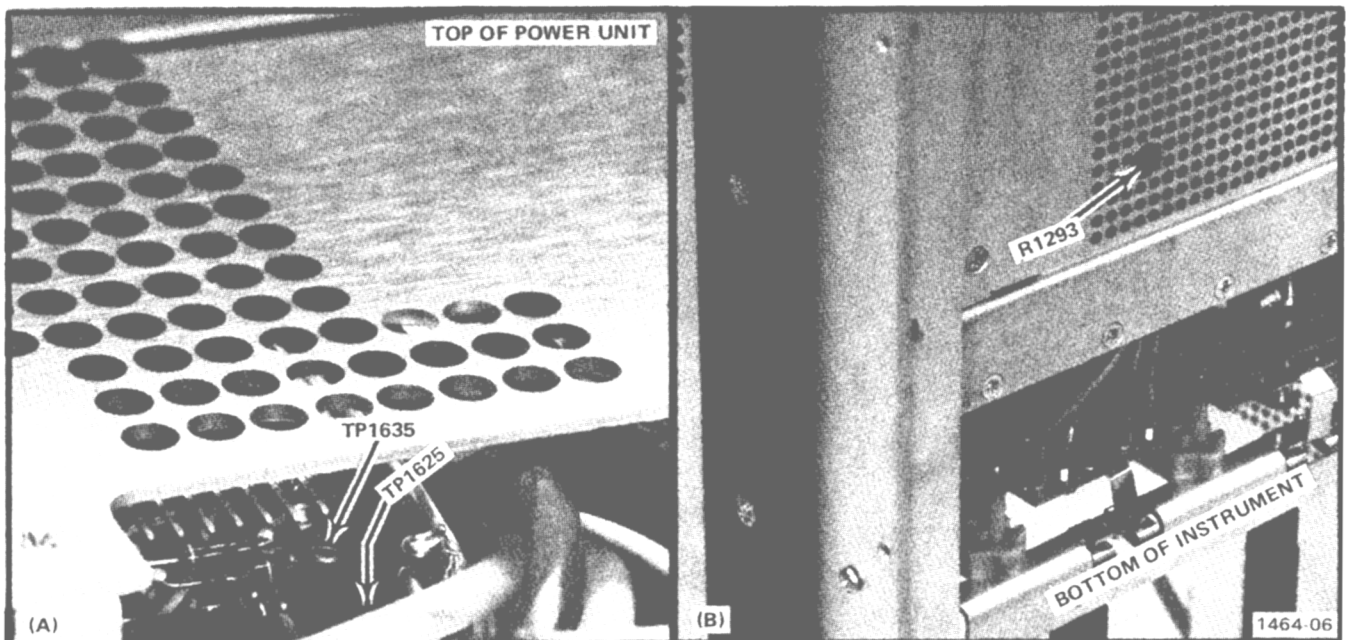

Fig. 2-1. (A) Location of Test Point 1625, (B) Location of R1293 Inverter control adjustments.
- a. Connect the precision DC voltmeter between TP1625 (Cap-Rectifier board; see Fig. 2-1) and chassis ground.
- c. ADJUST—Inverter control R1293 (Cap-Rectifier board; see Fig. 2-1) for a meter reading of +55 volts  $\pm$ 25 volts. Any change in this adjustment may affect operation of all circuits within the instrument.